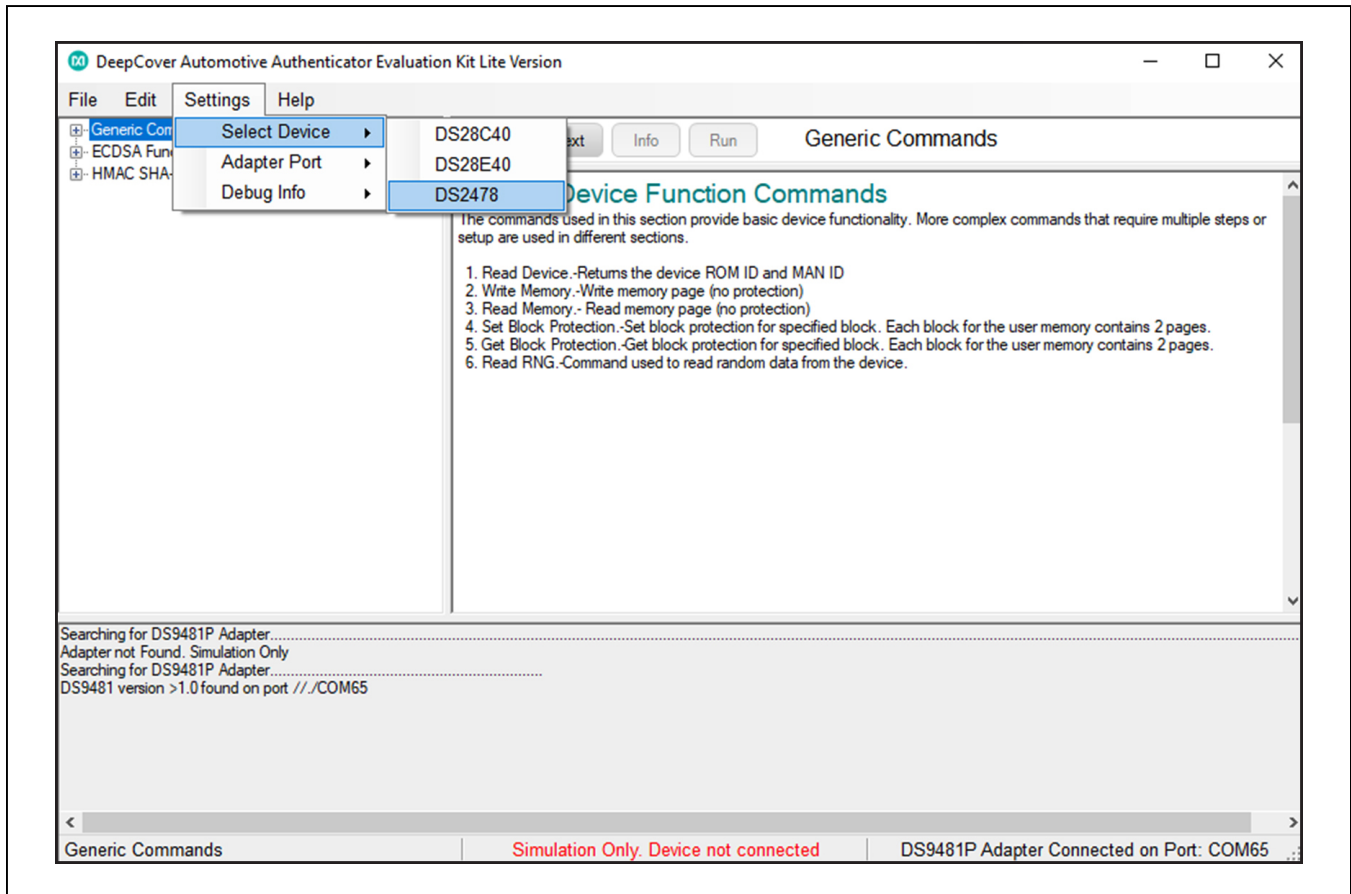
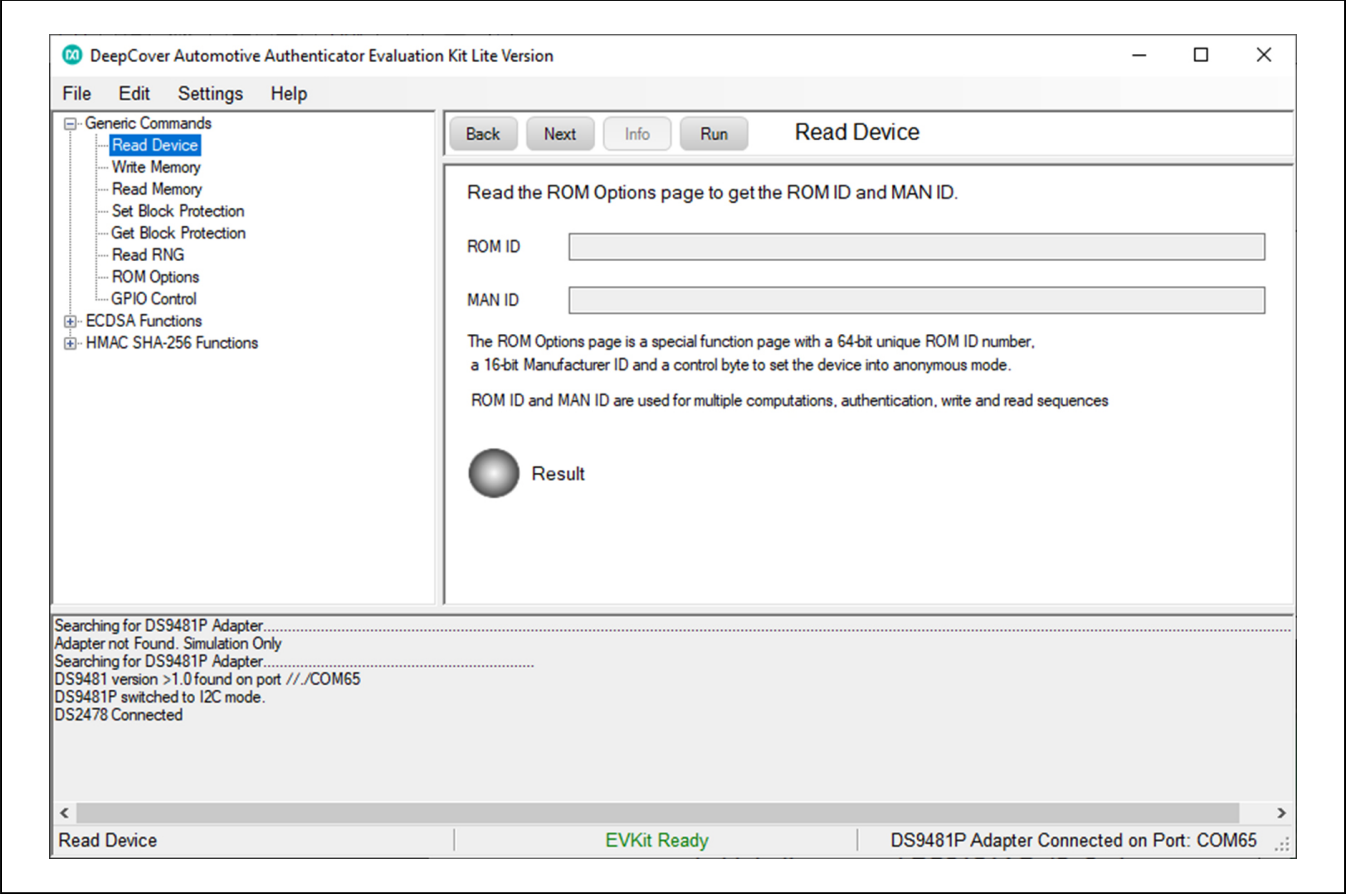

Figure 9. Select Device to Evaluate
Figure 10. Software Ready
- 9) **Select DS2478** by going to **Settings** → **Select Device** → **DS2478** (Figure 9). The Software will connect to the DS2478 and enable the functions to evaluate the device. The connection status can be verified in the data log as shown in Figure 10.
The DS2478 EV Kit Lite supports both the DS28E40 and DS28C40. The program requires a device selection for correct operation and hardware interface connection. Select the DS2478 to initiate device detection by selecting **Settings** → **Select Device** → **DS2478** (See Figures 9 and 10).